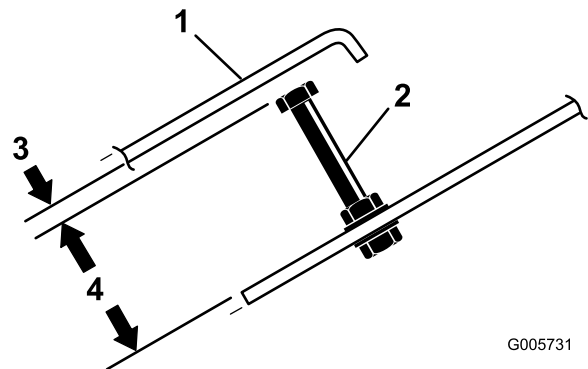

Figure 68
2. Loosen lock nuts and adjust traction pedal stop screw (Figure 68) to a length of 3.00 inches.